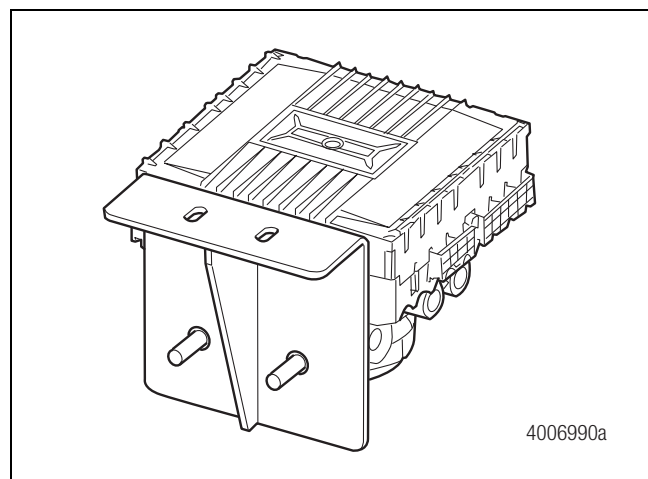

Figure 6.6
The replacement ECU assembly may not be mounted on an air tank. An air tank will not support the weight of the ECU/dual modulator valve assembly. A bracket may be fabricated using steel at least 3/16-inch (5 mm) thick or mounted directly to the cross member. Figure 6.6.
- Attach to a mounting bracket with two 9/16-inch (14 mm) mounting holes with 2-3/4-inches (70 mm) center-to-center distance between the two holes. The bracket must be made of cold rolled 1040 to 1080 steel with a reinforcing gusset. Figure 6.6.